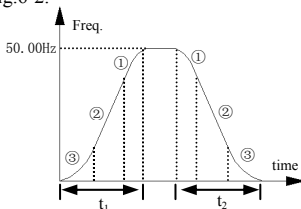

Fig.6-2 S curve Acce/Dece
1: S curve Acce/Dece mode. Output frequency increases or decreases according to S curve, just as shown in Fig.6-2.
S curve starting time is shown as Fig. 6-2③, slope of output frequency variation increases by degrees from 0.
S curve rising time is shown as Fig.6-2②, slope of output frequency variation is constant.
S curve ending time is shown as Fig.6-2①, slope of output frequency variation steps down to 0.